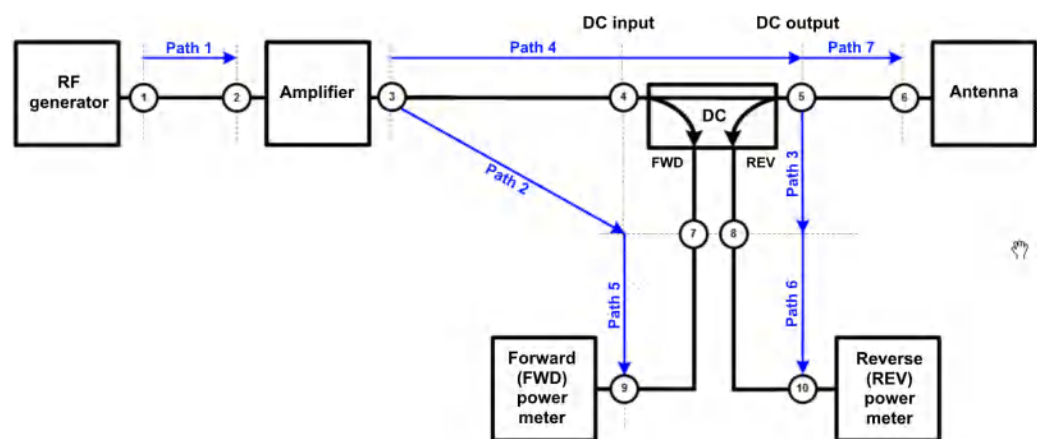

Figure 5-4: Devices and signal paths, with DC close to antenna
- ▶ Several EMS tests that simulate on-board transmitters (like FORD RI115) require measuring the net power at the antenna input. Because this measurement requires mounting the DC directly at the antenna input, R&S ELEKTRA must apply the modified paths as in Figure 5-4.